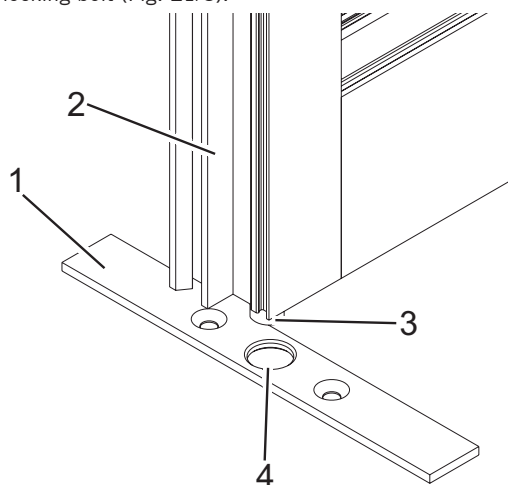

Fig. 21: Positioning the drilling template
1. Move the panel (Fig. 21/2) into the end position.
2. Position the drilling template (Fig. 21/1) below the locking bolt (Fig. 21/3).
3. Slowly operate the panel lock and center the locking bolt (Fig. 21/3) in the borehole (Fig. 21/4) of the drilling template.